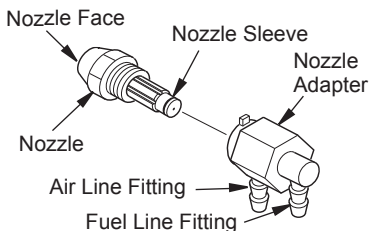

Figure 19 - Nozzle and Nozzle Adapter
- Carefully remove nozzle from the nozzle adapter using 5/8" socket wrench (see Figure 19).
- Replace nozzle into nozzle adapter until nozzle seats. Tighten 1/3 turn more using 5/8" socket wrench 4.5 to 5.1 N-m (40 to 45 in-lbs). See Figure 19).